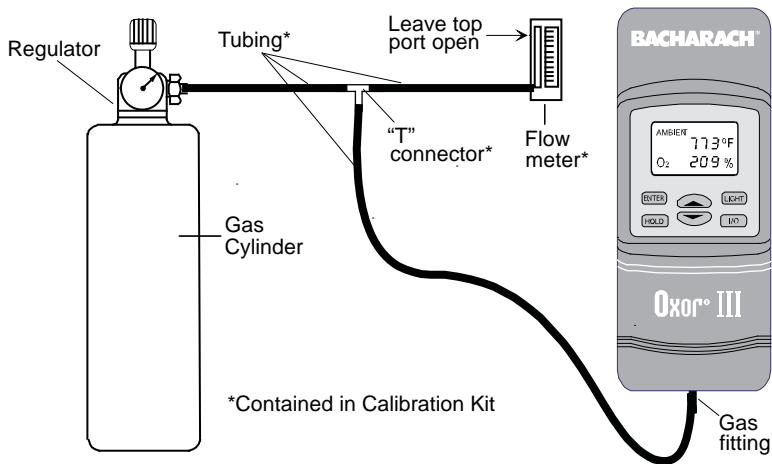

Figure 5-1. Calibration Kit Hookup
5. Connect the tubing of the Calibration Kit to the GAS inlet of the analyzer; then adjust the regulator for approximately 2 SCFH of excess flow (see Figure 5.1).